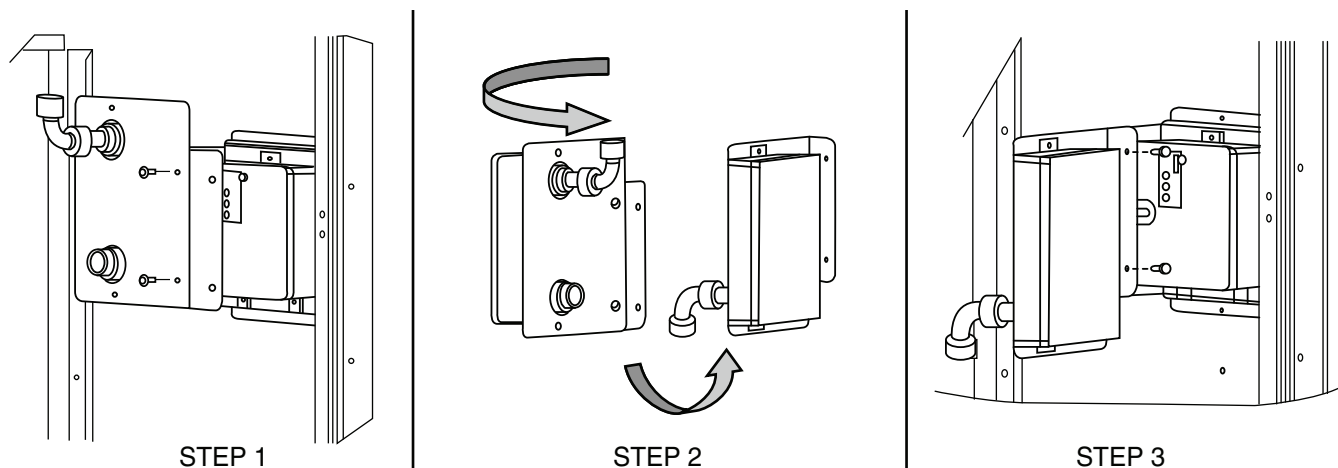

Fig. 42 — Completing Installation of Return Air Smoke Sensor
1. Unscrew the two screws holding the return-air smoke detector assembly. See Fig. 42, Step 1. Save the screws.
2. Turn the assembly 90 degrees and then rotate end to end. Make sure that the elbow fitting is pointing down. See Fig. 42, Step 2.
3. Screw the sensor and detector plate into its operating position using screws from Step 1. See Fig. 42, Step 3.